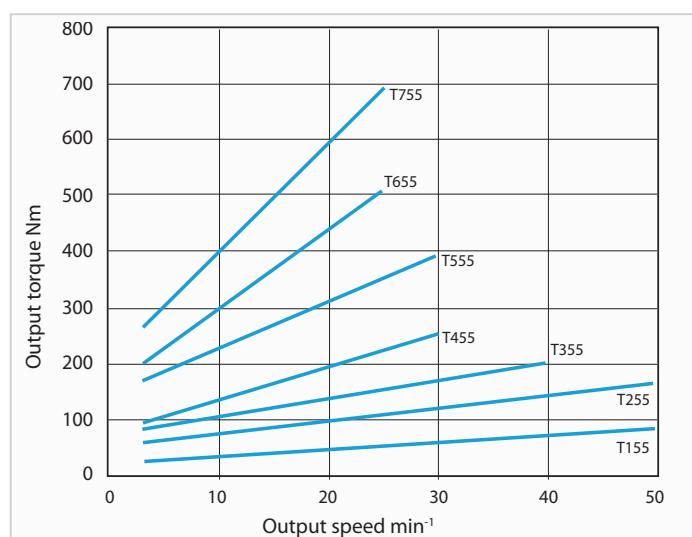

Fig. T1 Input side no-load running torque
**Note** 1. Fig. T1 shows the average no-load running torque after gearbox is run in (not factory-new condition).